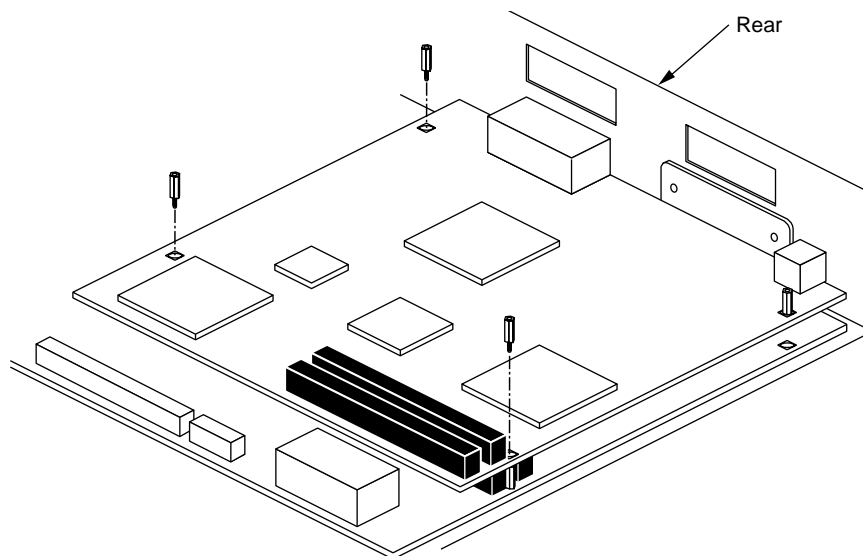

Figure 8-17 Removing the Standoff Screws From the Z Board
8. Using an open-ended wrench, remove the standoff screws from the Z board, as shown in Figure 8-17.